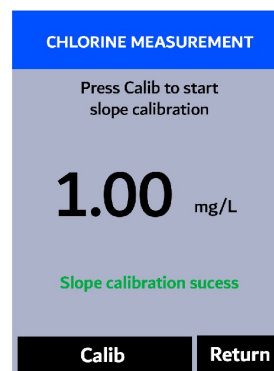

Figure 38.
12. Press **Calib** (**<** or **>**). The message **"Slope calibration success"** will appear on the bottom of the display (Figure 38).